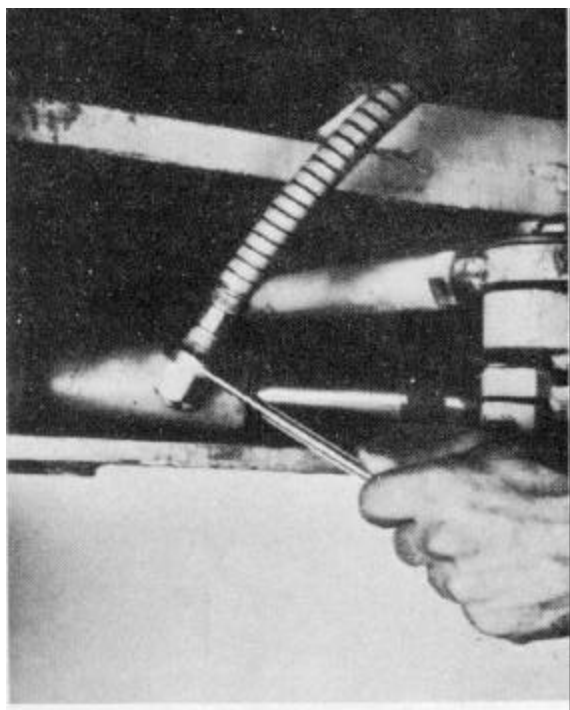

Figure 5-69
4. Remove the hydraulic hose from the rod end of the steer cylinder using an 11/16 wrench. A 5/8 inch wrench will be required when replacing this hose to prevent twisting (Fig. 5-69).